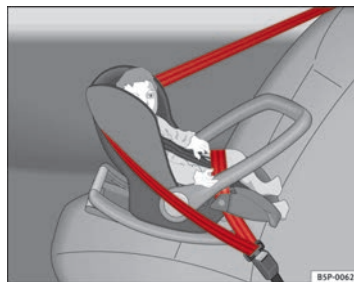

Fig. 28 A group 0 rear-facing child seat fitted on the rear seat.
**Group 0:** For babies from about 9 months old and 10 kg in weight, the most suitable seats are those appearing in the illustration ⇒ fig. 28.